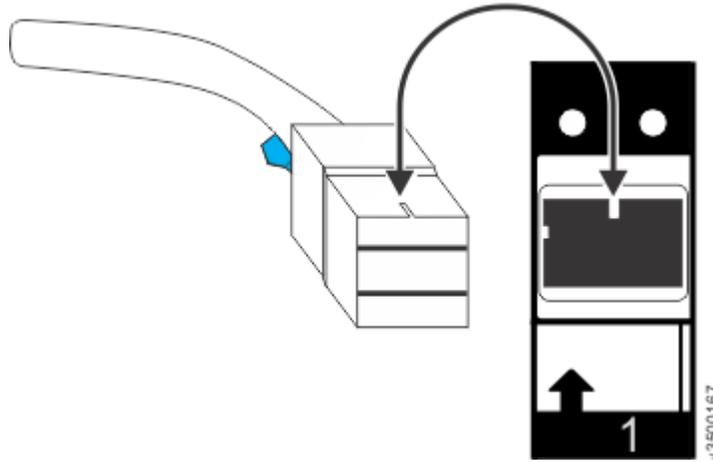

Figure 121. Proper orientation for SAS cable connector
- Figure 121 on page 186 shows the correct orientation. The blue tab is always below the port for expansion enclosure attachment SAS cables.